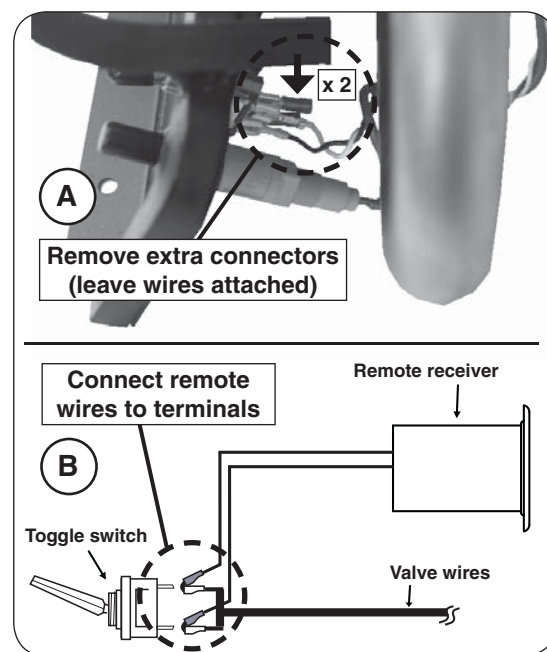

Fig. 15-3 Connect remote receiver
2. Locate the toggle switch on the right front of the burner. Remove and discard the two extra connectors on the terminals. See Fig 15-3, A.
3. Locate the wires coming off of the remote receiver, and connect them to the two now exposed terminals on the toggle switch / valve wires (see Fig. 15-3, B).